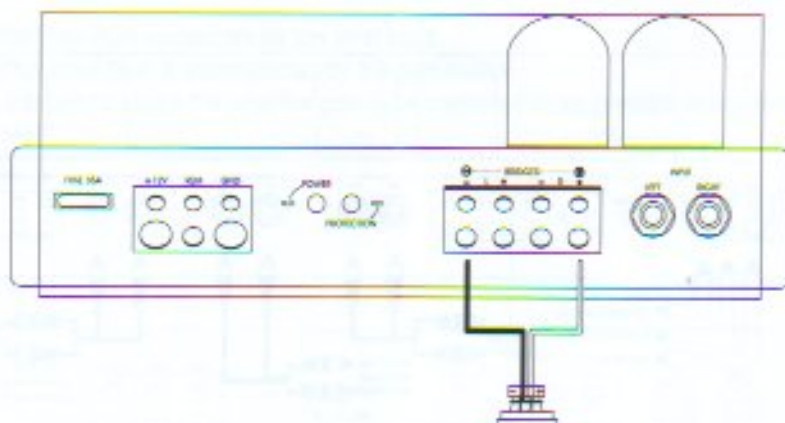

Fig.4. SPEAKER OUTPUT CONNECTION-BRIDGE MODE (μ -20VS V.2)
- (1) Connect one Subwoofer in Bridge Mode. (Fig.4.)